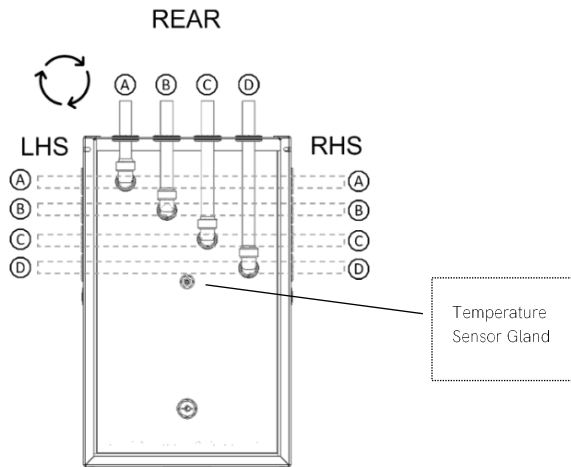

Figure 8 - Thermino TS Heat Battery Ports
- Rotate the elbows to the side you wish to connect the hydraulics (left, right or back) (Figure 8).
- The cold water inlet must be connected to Port D & the hot water outlet to Port A. Meanwhile the External Heat Source Flow to Heat Battery must be connected to Port B & External Heat Source Return from the Heat Battery to Port C (Figure 8).